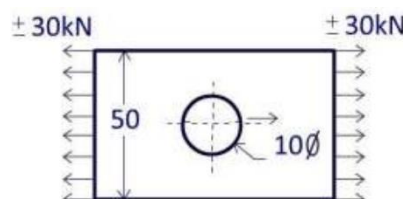

Figure-2
- b) A plate made of steel 20CB ($S_{ut}=440\text{N/mm}^2$) in hot rolled and normalized condition is shown in Figure-2. It is subjected to a completely reversed axial load of 30kN. The notch sensitivity factor q can be taken as 0.8 and the expected reliability is 90%. The size factor is 0.85. The factor of safety is 2. Determine the plate thickness for infinite life. [8M]